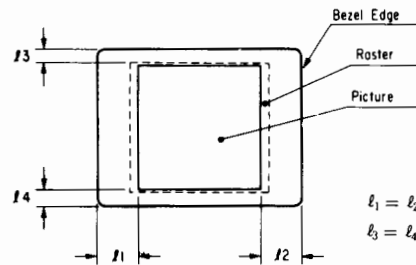

Figure 6-3. Centering the Picture.
6. Adjust RV-205 (H PHASE) on the "D" board to center the cross-hatch pattern with respect to the background raster. See Figure 6-3.